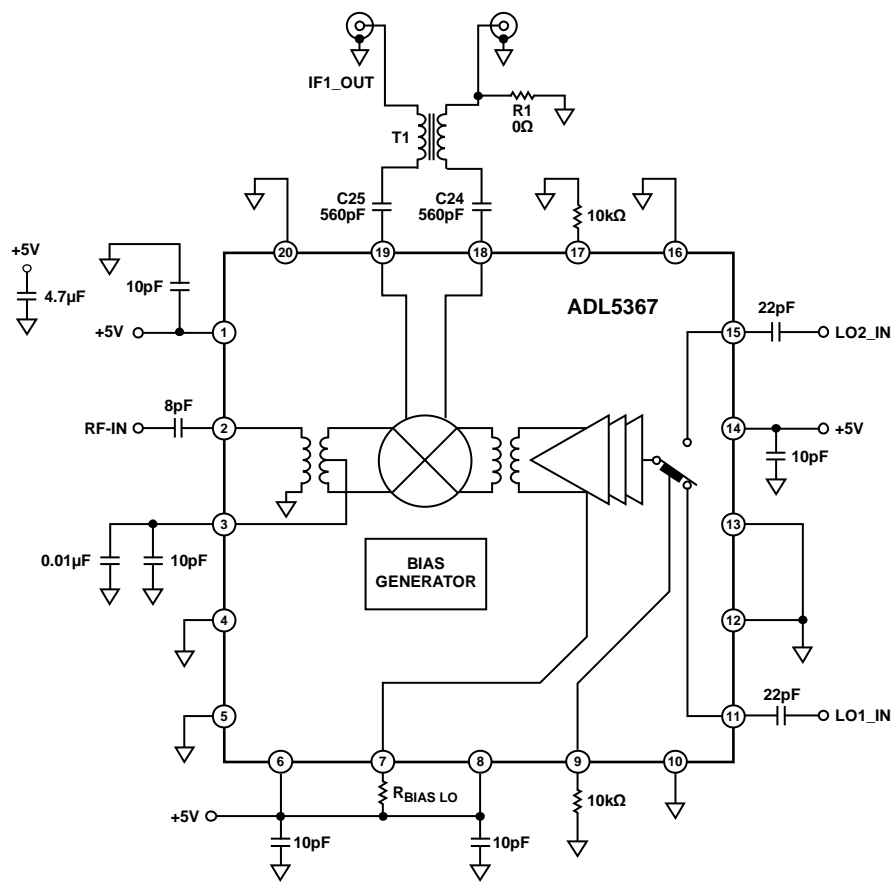

Figure 50. Typical Application Circuit
The ADL5367 mixer is designed to upconvert or downconvert between radio frequencies (RF) from 500 MHz to 1700 MHz and intermediate frequencies (IF) from dc to 450 MHz. Figure 50 depicts the basic connections of the mixer. It is recommended to ac-couple the RF and LO input ports to prevent non-zero dc voltages from damaging the RF balun or LO input circuit. The RFIN capacitor value of 8 pF is recommended to provide the optimized RF input return loss for the desired frequency band.